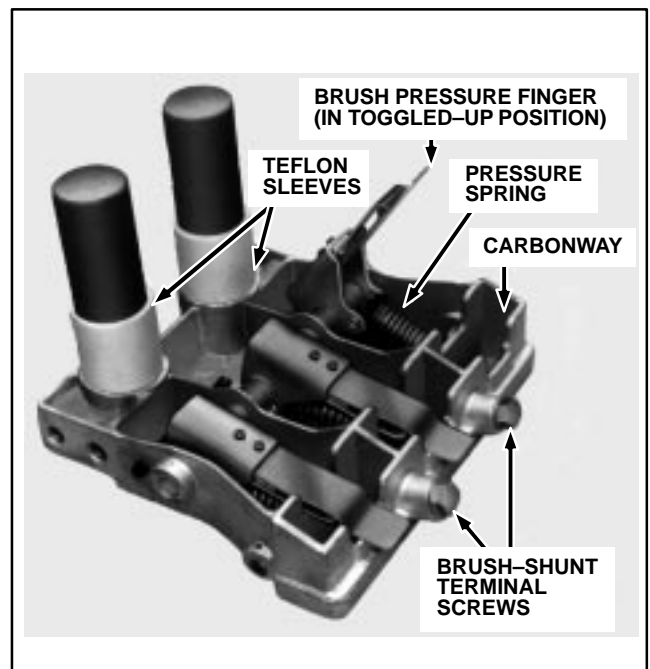

FIG. 5. BRUSH SPRING ARRANGEMENT.
Brushholders (Fig. 5)
Use a clean, lintless cloth and wipe dirt and grease from the Teflon* brushholder sleeves, Fig. 5. If necessary, use a cleaner such as MEK (methyl ethyl ketone) to clean the sleeves. Inspect sleeves for cracks and thin
Lift the brush pressure fingers to the "toggled-up" position, Fig. 5, and check for free movement of the spring assembly.
2. Disconnect the brush shunt from the terminal screw, Fig. 5, located on the brushholder body.